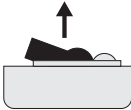

Fig. No. 5
4. Remove the plastic tab inserted between one of the battery terminals and battery slot contacts (see Fig. No. 5).